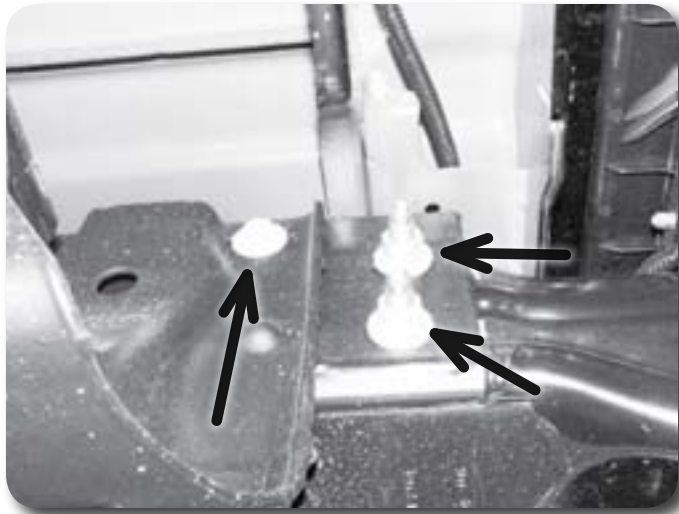
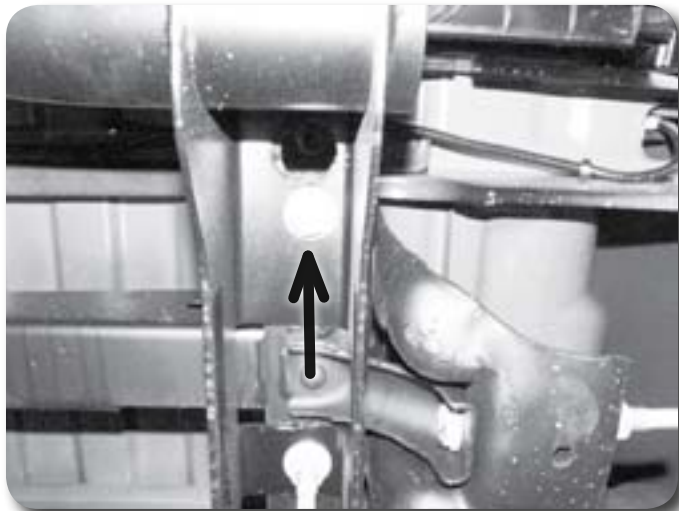

Figure 30a
Figure 30b
5. Remove the 4 bolts (8 total) mounting the rear bumper to the frame rails. 3 are accessed from the side of the frame **Figure 30a** and one up through the bottom **Figure 30b**. Remove the bumper from the vehicle. Save all hardware.